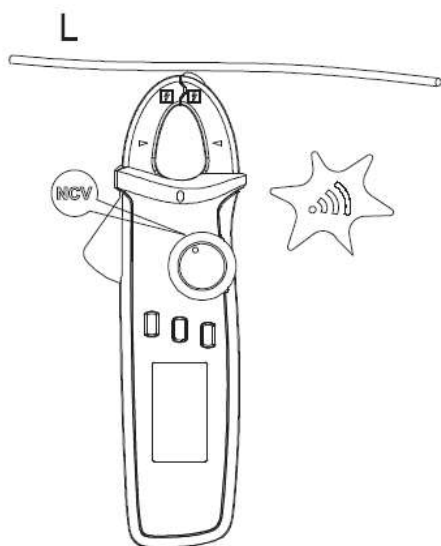

Figure 7
4. Masurare camp electric NCV (fără contact, vezi fig.7)